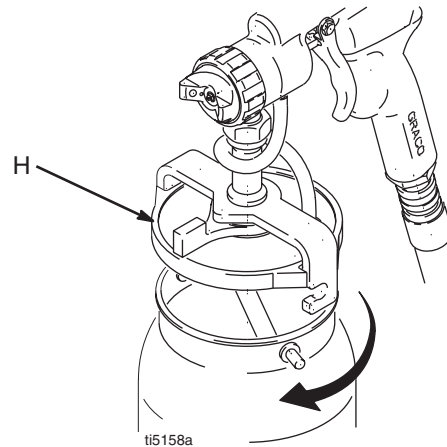

FIG. 14
Fill cup 3/4 full to keep air pressure tube clean. Install cover. Latch the under-cup cover (H) to secure it to cup. FIG. 14.